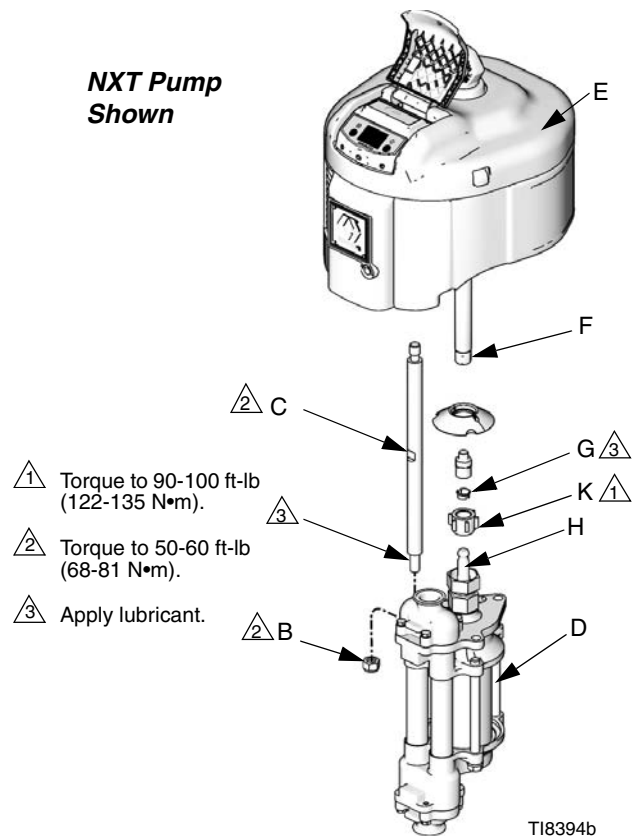
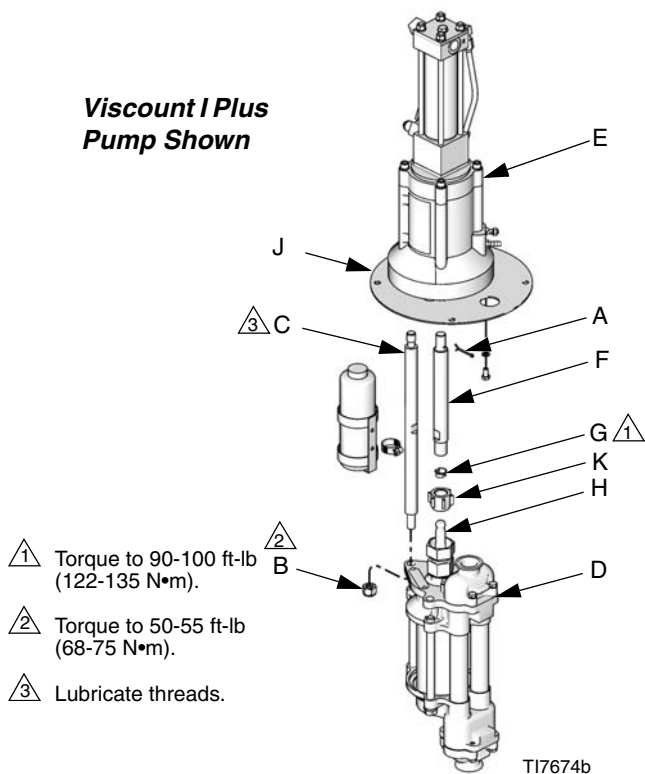

FIG. 5
FIG. 6
3. Loosen the coupling nut (K) and remove the collars (G). Remove the coupling nut from the piston rod (H). Unscrew the locknuts (B) from the tie rods (C). Pull the lower (D) off the motor (E). See FIG. 5 and FIG. 6.
1. Loosen, but do not remove, the screws holding the adapter plate (J) to the motor (E), on Viscount I Plus pumps. See FIG. 6. For Viscount II pumps, torque screw (N) to 50-55 ft-lb (68-75 N•m) into motor (E).
2. Screw the tie rods (C) into the adapter plate (J) and torque to 50-55 ft-lb (68-75 N•m). On Viscount I Plus pumps, the tie rods will engage threaded holes in the base of the motor. Viscount II pumps will engage into the adapter plate (J).
3. Fill the cavity in the bottom of the motor shaft with grease. Screw the coupling rod (F) into the motor shaft until the pin holes align. Install the pin (A) in the first hole from the end of the coupling. On Viscount II pumps, torque the coupling nut (M) into the motor shaft.
4. Align the lower (D) with the tie rods (C) and loosely install the tie rod locknuts (B).
5. Insert the collars (G) and screw the coupling nut (K) onto the coupling rod (F) and torque to 90-100 ft-lb (122-135 N•m).
6. For Viscount I Plus pumps, torque the holding the adapter plate (J) to the motor (E) to 15-17 ft-lb (20-23 N•m). For Viscount I Plus and Viscount II pumps, torque the tie rod locknuts (B) to 50-55 ft-lb (68-75 N•m).